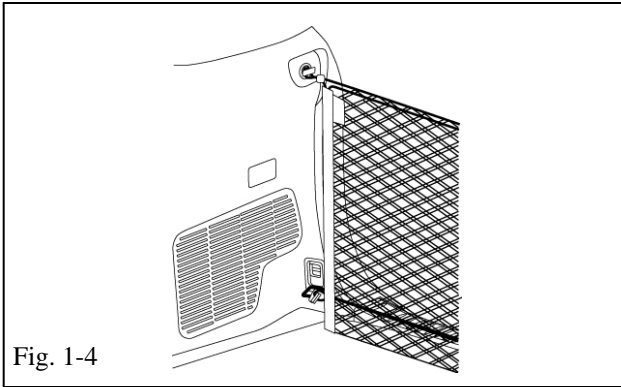

Fig. 1-4
- (e) Review passenger's side attachment (Fig. 1-4).